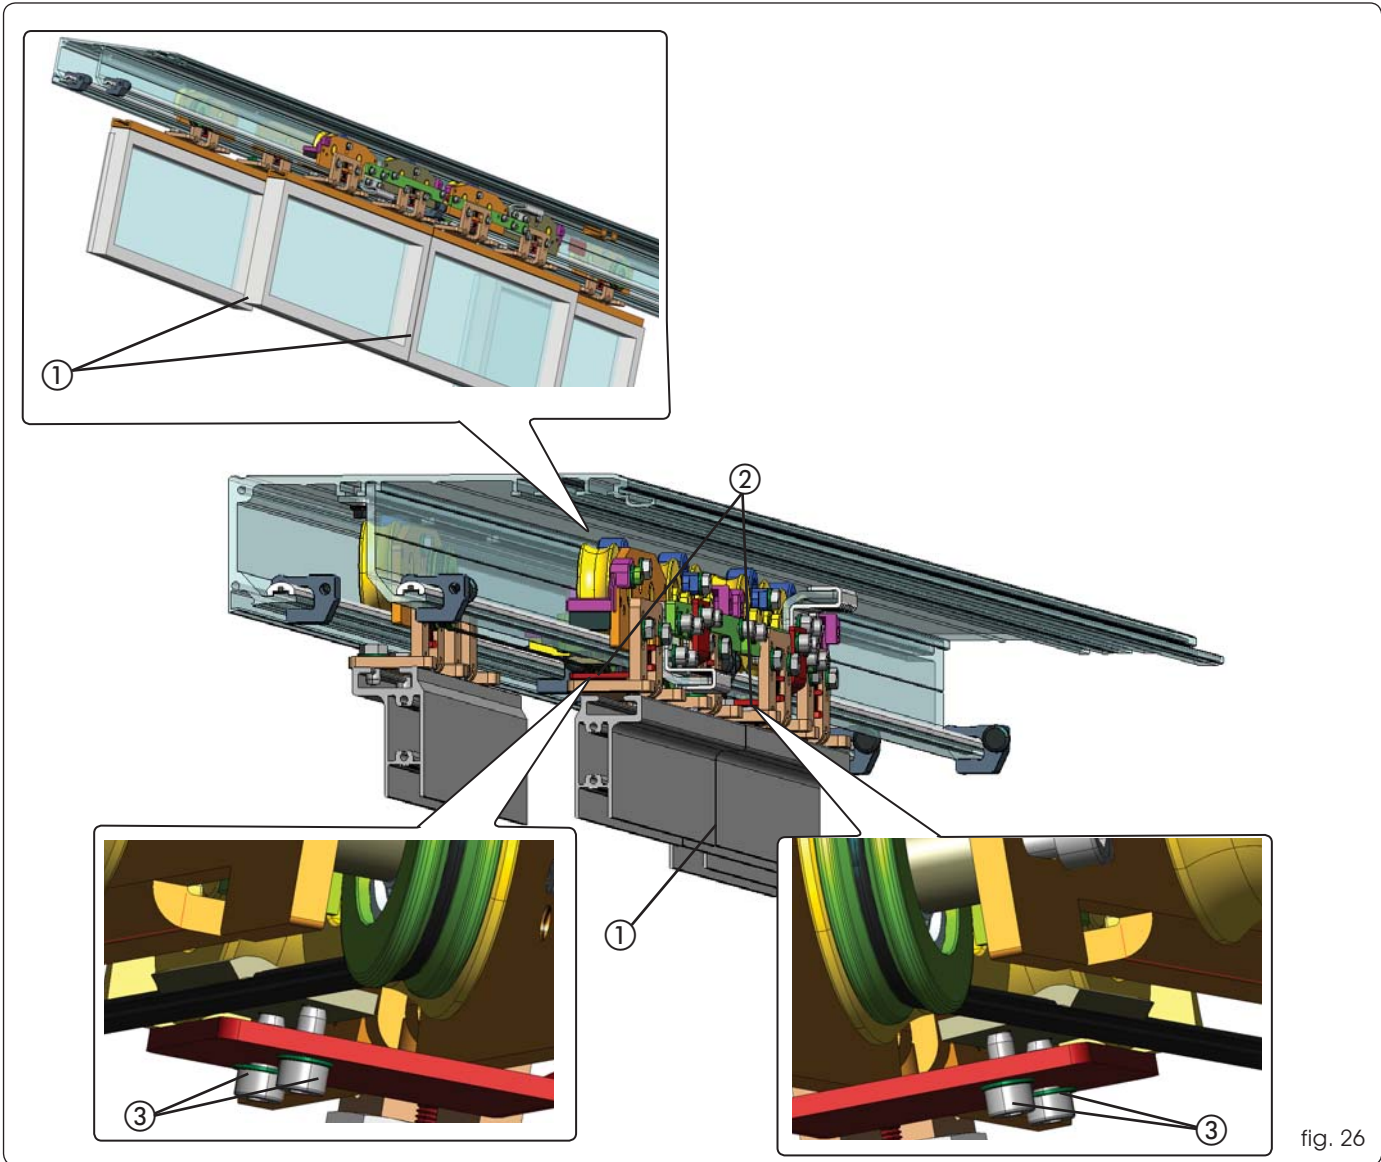

fig. 26
Take the inner leaves of the A140 AIR door to closed position fig.26 Ref. ① .
Make sure that between the external and internal leaves there is a 25 mm overlap fig.26 Ref. ① .
In this condition use the brackets to lock the steel cable of the external carriages fig.26 Ref. ② .
Secure the cable under the brackets using the supplied screws fig.26 Ref. ③ .